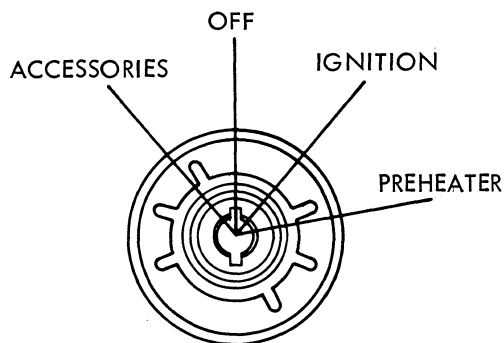

Figure 9 - Key Switch Positions
6. **KEY SWITCH:** (See Figure 9) Key positions are: